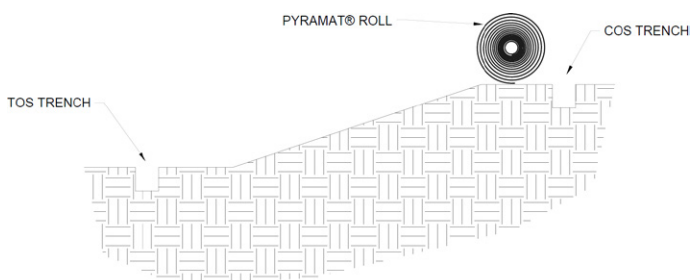

Figure 3: Crest of Slope (COS) trench alignment
- Starting at the COS trench, lay the **PROPEX** Pyramat roll so that the roll ends point towards the crest of the slope (Figure 3), with a 3 in (75 mm) overlap created at adjacent panel edge locations. Ensure that adjacent panel edges maintain a minimum 3 in (75 mm) overlap during the material laydown (Figure 8).